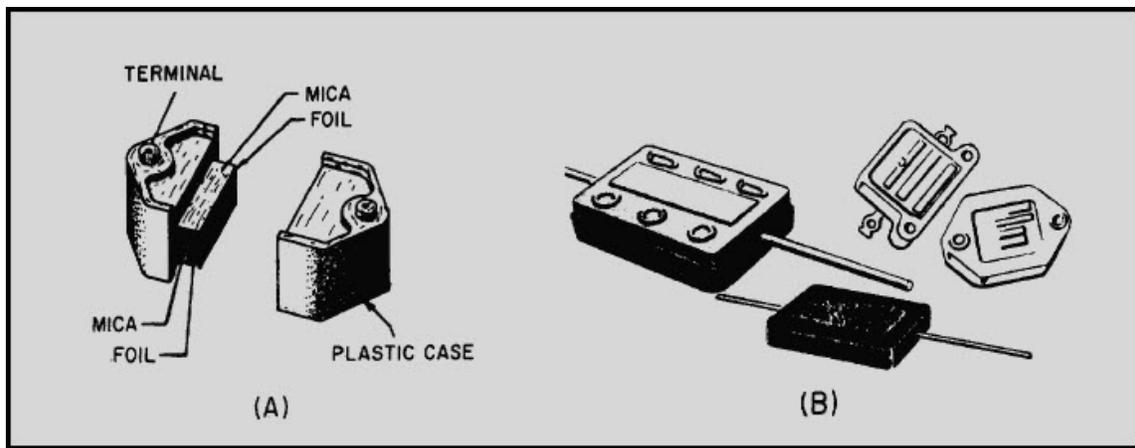

Figure 3-16 Typical mica capacitors
A MICA CAPACITOR is made of metal foil plates that are separated by sheets of mica (the dielectric). The whole assembly is encased in molded plastic. Figure 3-16(A) shows a cut-away view of a mica capacitor. Because the capacitor parts are molded into a plastic case, corrosion and damage to the plates and dielectric are prevented. In addition, the molded plastic case makes the capacitor mechanically stronger. Various types of terminals are used on mica capacitors to connect them into circuits. These terminals are also molded into the plastic case.
Mica is an excellent dielectric and can withstand a higher voltage than can a paper dielectric of the same thickness. Common values of mica capacitors range from approximately 50 picofarads to 0.02 microfarad. Some different shapes of mica capacitors are shown in figure 3-16(B).